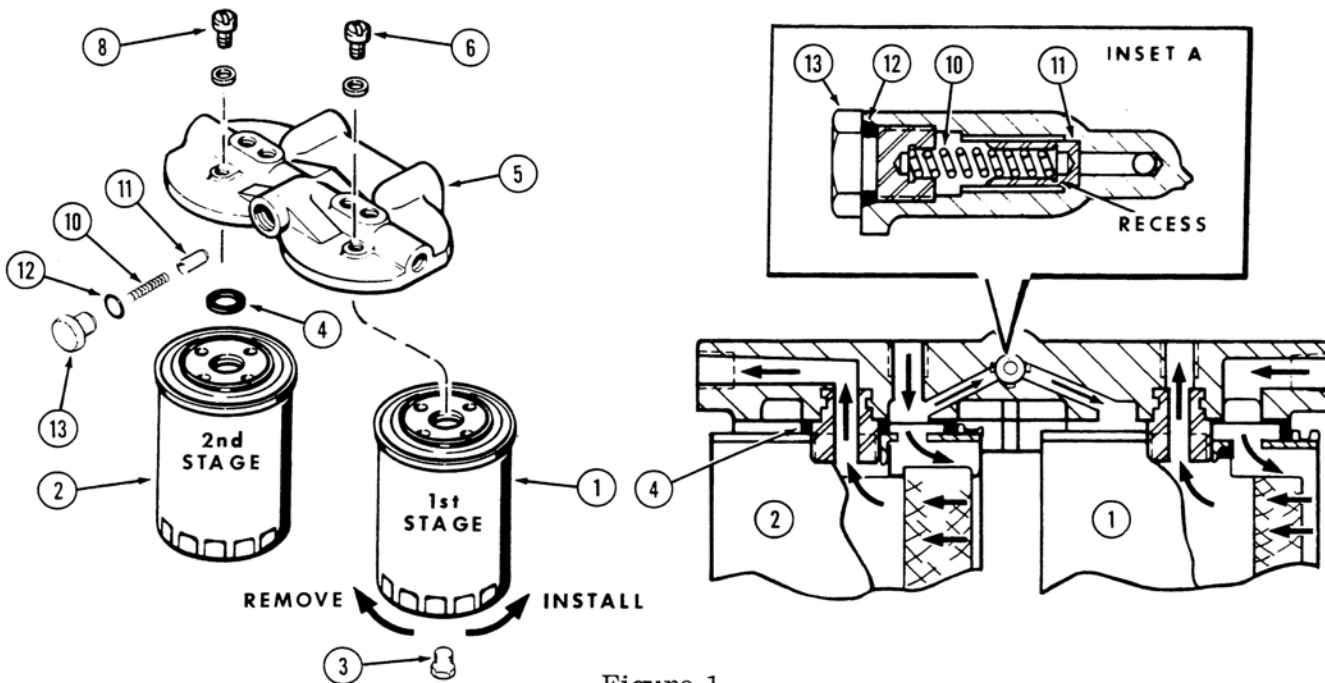

Figure 1
**(Refer to Figure 1, 2 and 3)**
1. Close the fuel tank shut-off valve and remove the drain plug (3) from the first stage filter (1).
2. Use a clamp type filter wrench to remove the filters. Turn filters (1 and 2) counter-clockwise, Figure 1 for removal.
3. Remove the stud gasket (4) from the 2nd stage filter mounting stud and install new gasket.
6. Open the bleed valve (6) on the first stage filter - Operate the hand primer pump (7), if equipped or actuate the fuel pump if equipped - Close the bleed valve (6) when clear bubble free fuel appears.
7. Open the bleed valve (8) on the second stage filter - Operate the hand primer pump (7), if equipped or actuate the fuel
9. Before installing the relief valve plunger (11), the spring (10) must be assembled so that the last coil is snapped into the recess of the plunger, Figure 1, Inset A.
10. Install a new "O" ring (12) to the plug (13) before installation.
### **(Refer to Figure 1)**
The Zenith Model 267-L10 Carburetor, Figure 1, used on the Case 301B Gasoline Engine is an updraft of single venturi design. The fuel bowl is located near the centerline of the carburetor and together with the twin float, makes it possible to maintain proper metering of air and fuel to the engine without flooding when operated at extreme angles. The carburetor is sealed and balanced in that all air for the fuel bowl metering, well venting and for idling, must come through the air cleaner.